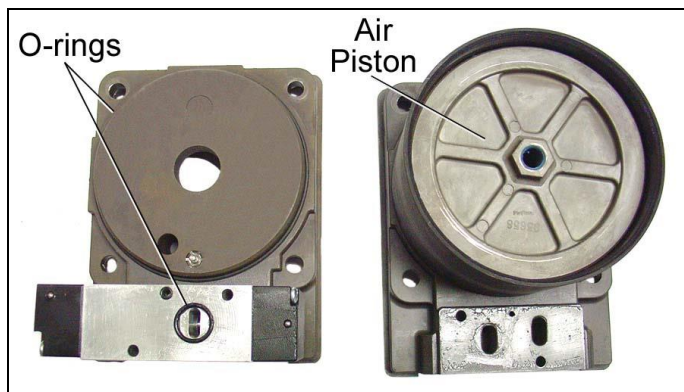

Figure 11
11. Gently tap housing assemblies (1) and (2) with leather or rubber mallet to remove from air cylinder (3) and air valve assembly (8) taking care not to lose O-rings (29) and (22) or damage air valve assembly (8). Remove air piston (4) and seal system (21) from air cylinder (3). See Figures 11 & 12.